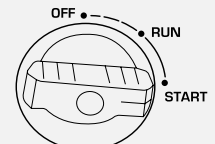

Fig. 2
- 11 To start KS 2100iG S, KS 3100iG S models, turn the Multifunctional engine switch to the „START“ position (fig. 2). Pull the handle of manual starter until a slight resistance is felt, then pull it relatively sharply. Slowly return the handle manual starter by hand, do not release it abruptly. Turn the Multifunctional engine switch to the „RUN“ position (fig. 2).